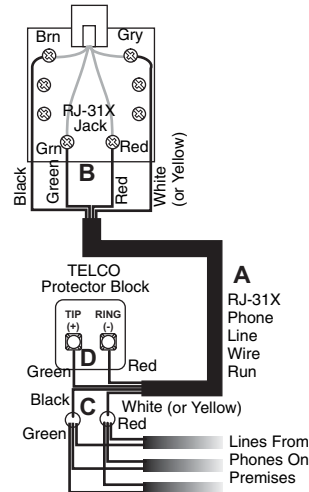

Figure 23. Installing an RJ-31X Phone Jack
- **To connect a phone line to the panel using an RJ-31X/CA-38A jack (see Figure 23):**